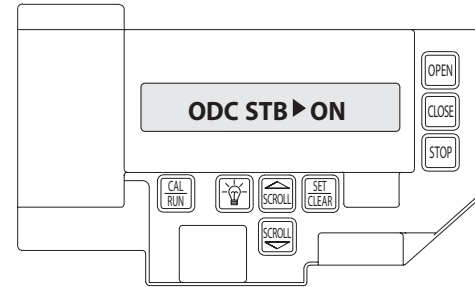

Figure 12
- 2) Press SCROLL  (up or down) until display reads "ODC STB>ON" or "ODC STB>OFF" **Figure 12**